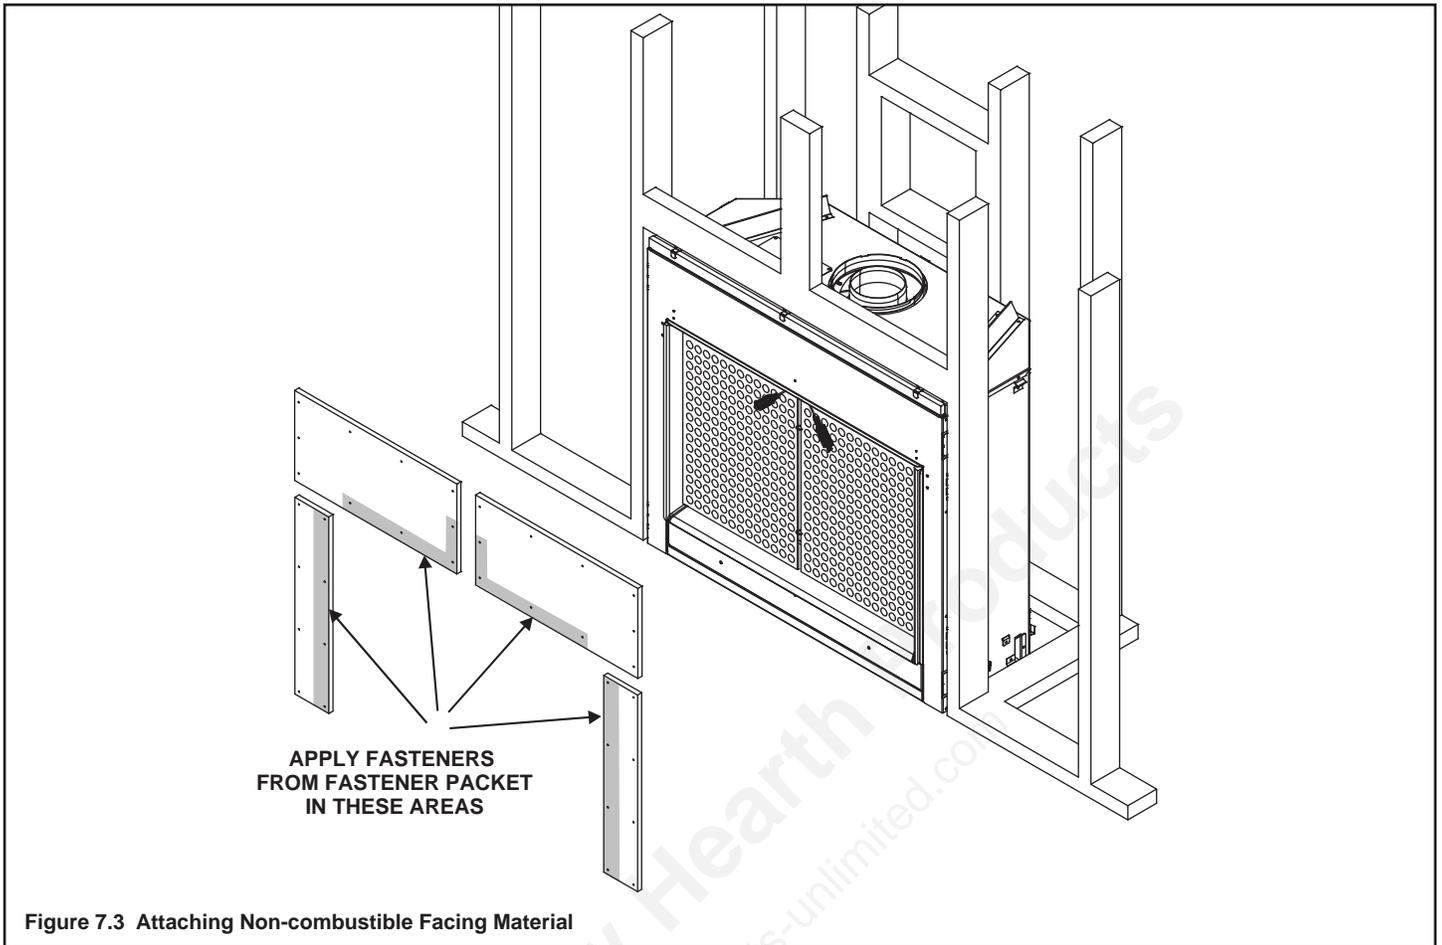

Figure 7.3 Attaching Non-combustible Facing Material
- Center and attach two top boards to the framing members. See Figure 7.3.